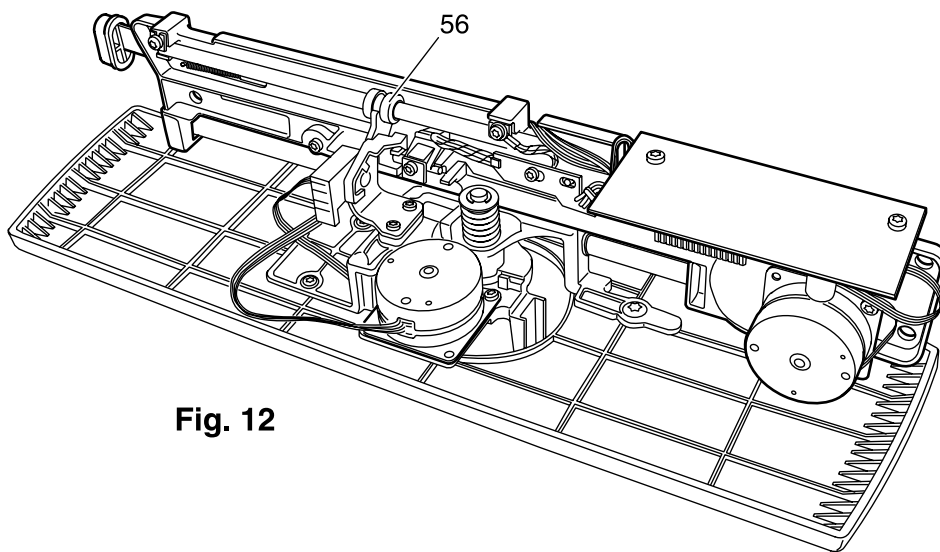

Fig. 12
1. Insert the support angel into the support bushing 56 (Fig. 12).